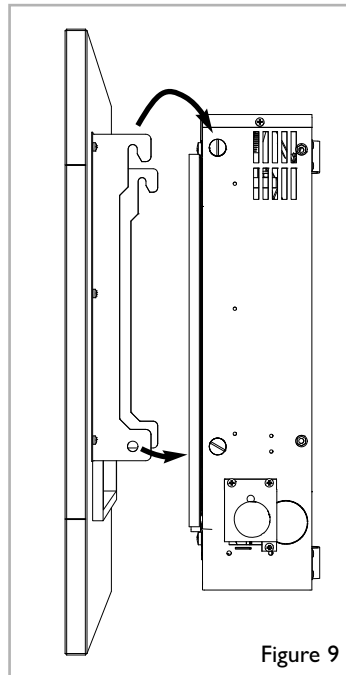

Figure 9
**eko 5010, eko 5020, eko 5030 models:** The frame is hung onto the firebox via the two upper hanging brackets and then secured to the firebox via the two lower fixing bolts, which are inserted through the holes in the lower frame mounting brackets after the frame is in position. See figure 9.